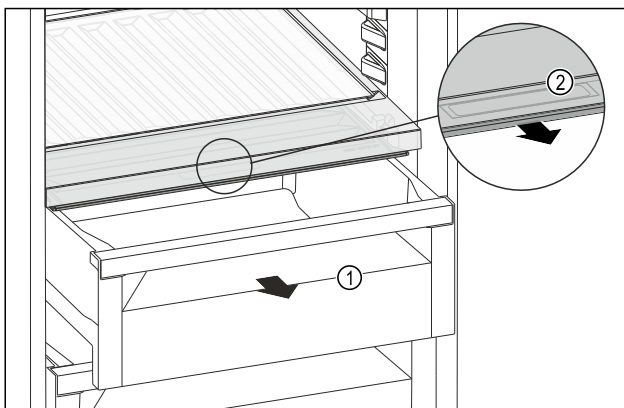

Fig. 117
- ▶ Pull out the drawer Fig. 117 (1).
- ▶ Grasp the recessed grip Fig. 117 (2) on the compartment lid and pull the compartment lid forwards at the same time.